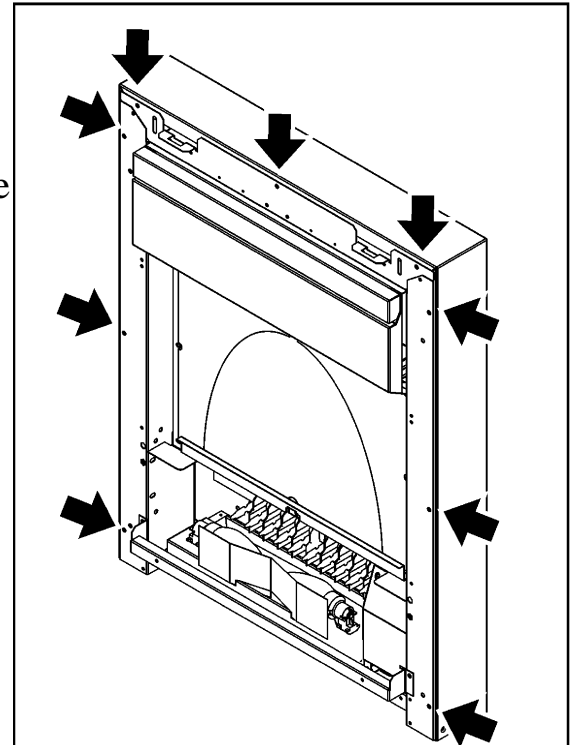

Figure 7. Fitting the spacer frame to the Chic and Twilight heater
**Chic, Envy and Twilight model** - The spacer frame will need to be fitted to the heater at this point using the nine black screws provided (See figure 7).